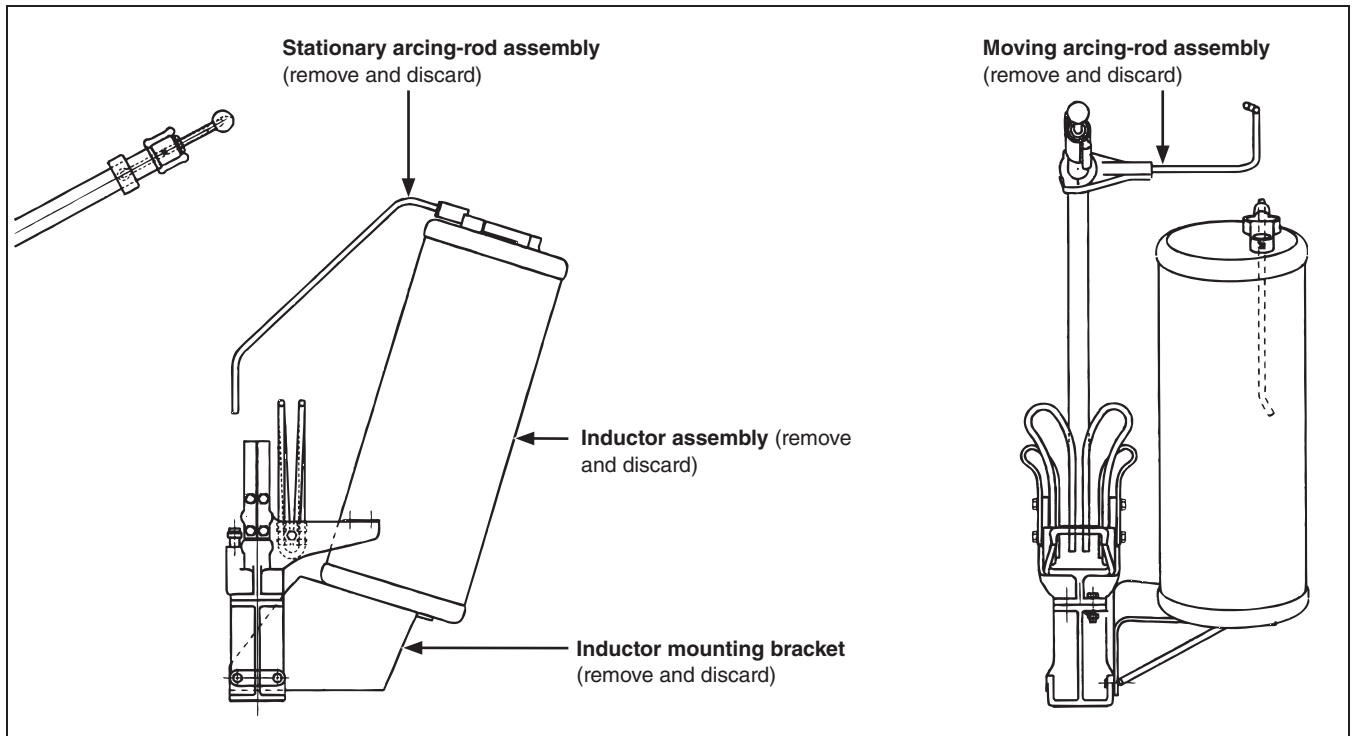

Figure 8. Removal of existing earlier-production 10-millihenry pre-insertion inductors on 115-kV and 138-kV vertical-break style circuit-switchers.
*For earlier-production 10-millihenry pre-insertion inductors (inductors mounted at an angle) on 115-kV and 138-kV vertical-break style circuit-switchers:* Refer to Figure 8 on page 9.